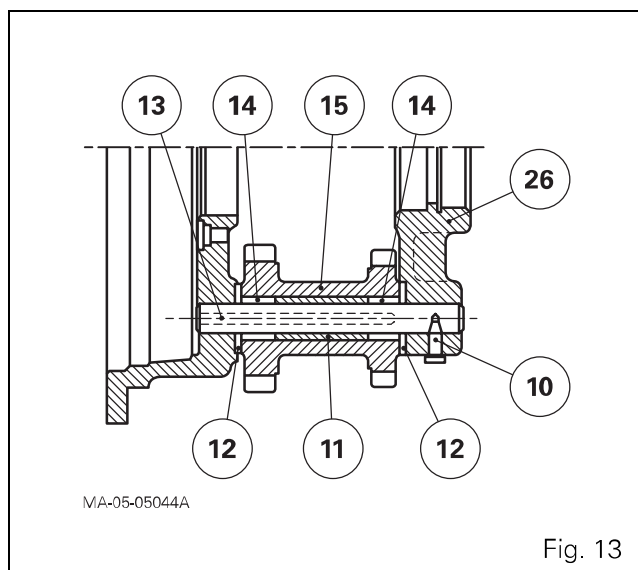

Fig. 13
Reassembling the layshaft gear (15) for reverse travel (Fig. 13)
32. Slide the needle roller bearings (14) separated by the spacer (11) into the layshaft gear (15).
33. Place the assembled layshaft gear in the housing (26). Slide a washer (12) onto each of its faces.
34. Fit the pin (13).
35. Lightly smear the thread of the set screw (10) with Loctite 242 or equivalent. Tighten to a torque of 28 - 43 Nm.